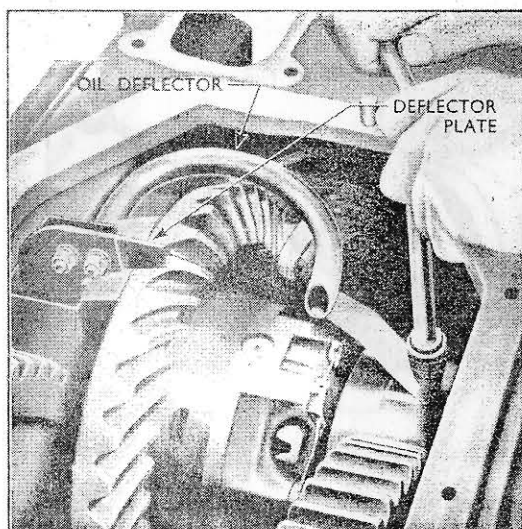

Fig 6
13. Unscrew the three bolts securing the oil deflector assembly and remove the oil deflector assembly. (See Fig. 6.)
8. Refit the oil deflector assembly to the bull pinion housing and secure with three bolts and spring washers. Check for .004 in. (.102 mm.) clearance between the oil deflector plate and the periphery of the crown wheel, adjust, if necessary, by moving the plate in the elongated holes. (See Fig. 6.)